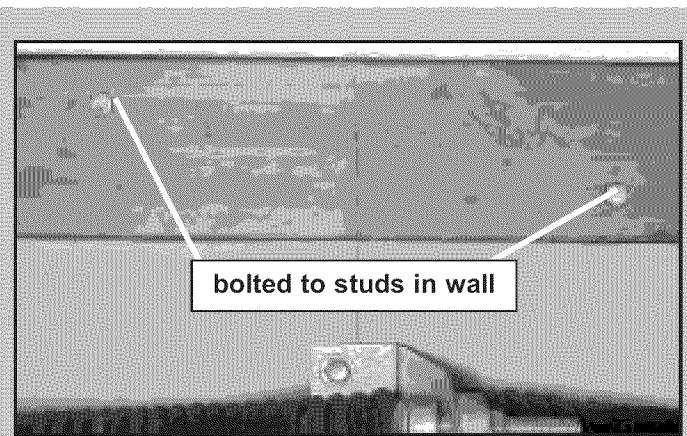

FIG. 2-4 Adding mounting surface.
**NOTE:** If header bracket location needs to be above header for garage door opening, you need to add a "mounting surface." A 2" x 6" board securely attached (fasteners not included) across wall studs on either side of your mark is sufficient (Fig. 2-4).